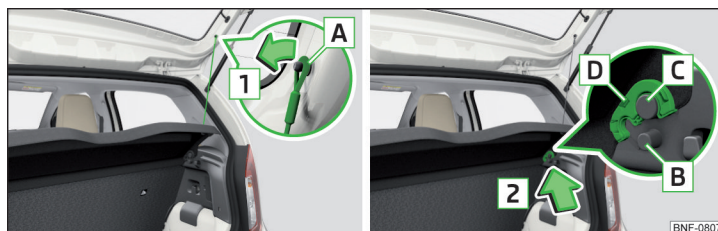

Fig. 76 Remove the luggage compartment cover
If the support straps **A** » Fig. 76 are attached to the boot lid, then opening the lid will raise the boot lid cover (hereafter referred to as cover).
- Raise the cover and bolt it down » Fig. 76 on both sides of the boot lid in the studs **B**.
- Fold the raised cover down. The cover is released from the studs **B** » Fig. 76.
- On both sides of the boot lid unhook the straps **A** in the direction of arrow **1** » Fig. 76.
- Position the fixtures **D** on the cover over the studs **C** » Fig. 76.